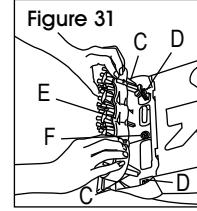

Figure 31
1. Align posts (C) on both ends of brush assembly with slots (D) in cleaner housing. Make sure that square post (E) also aligns with square hole (F). Turn brushes slightly until post fits easily into hole. (See Figure 31)